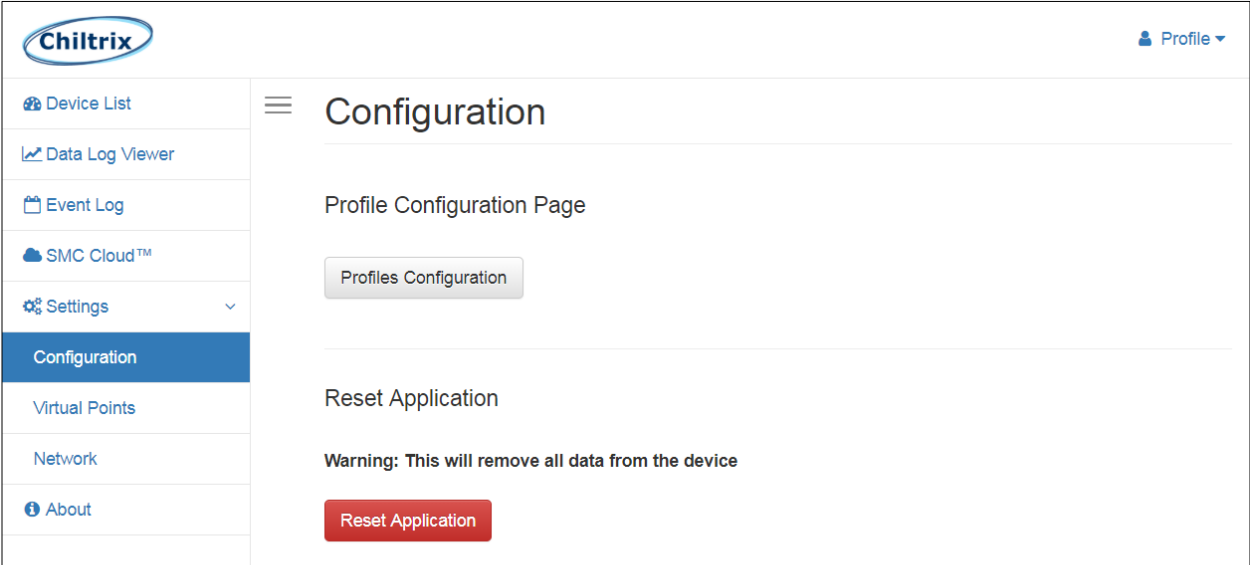

Figure 15: Configuration Tab
**NOTE:** The Cloud tab see Figure 15) allows users to connect to the Cloud which enables secure remote connection to field devices through a FieldServer and its local applications for configuration, management, maintenance.